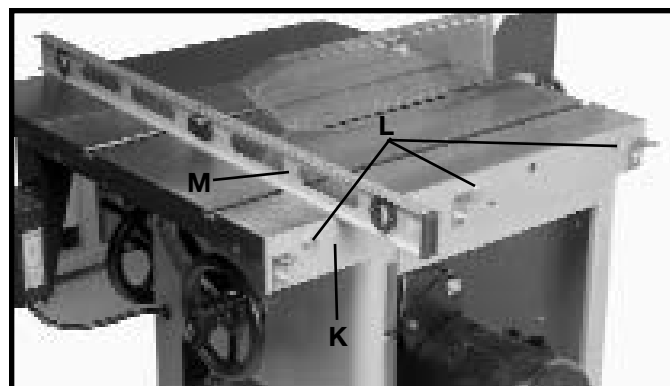

Fig. 12
8. Fasten the table adapter plate (K) to the right side of the saw table using the three 7/16-20x1" hex head screws (L) and 7/16" lock washers, supplied, as shown in Fig. 12. **NOTE:** Before tightening screws (L), use a straight edge (M) to make sure top of the adapter plate (K) is level with or slightly below surface of the saw table. Also make sure that the front edge of the adapter (K) does not stick out past the front edge of the saw table.
8. Assemble table adapter plate (K) Fig. 12, to the right side of the saw table as shown using three 3/4 inch screws, lockwashers and hex nuts (not supplied).
NOTE: Do not drill any hole to fasten adapter plate (K) Fig. 12, to the saw table that will be located less than two inches from either end of the adapter plate. Before tightening three screws (L) Fig. 12, place a straight edge on the saw table and make certain the top of adapter plate is level with or slightly below the surface of the saw table. Also, make certain front of adapter plate (K) Fig. 12, does not extend out past the front edge of the saw table.